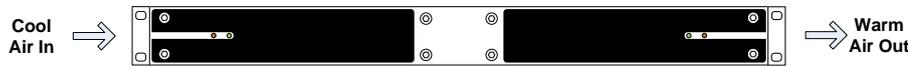

Figure 5.1 Air path through the unit
- This product should never be placed near or over a radiator or heat register. Do not place in a built-in installation (e.g. a rack) unless proper ventilation is provided in accordance with the device airflow design as depicted in **Figure 5.1**.
Figure 5.1 shows the air path through the unit, where cool air is taken from the left hand side, seen from the front.